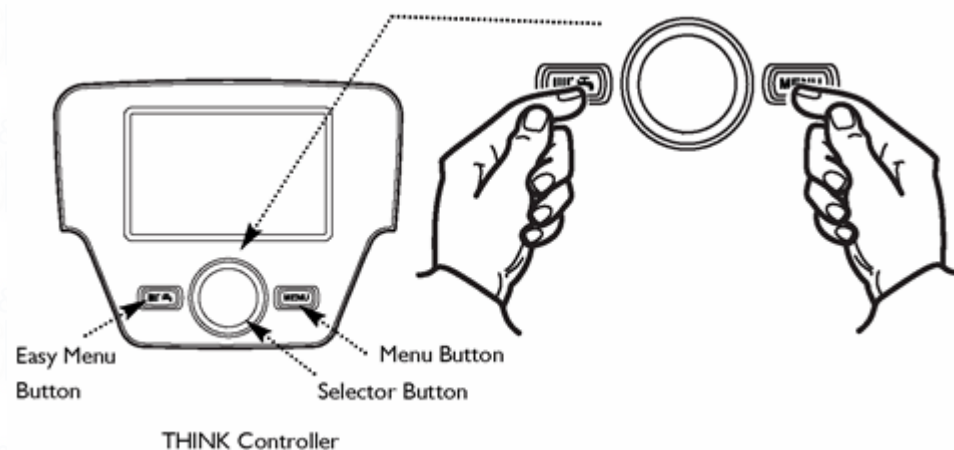

Fig. 74a
2. To do this it is necessary to activate the chimney sweep function by pressing and holding the easy menu and menu buttons (Fig. 74a) whilst in the normal operation screen until chimney sweep function option appears. Press the Select or Button to switch the chimney sweep function on.